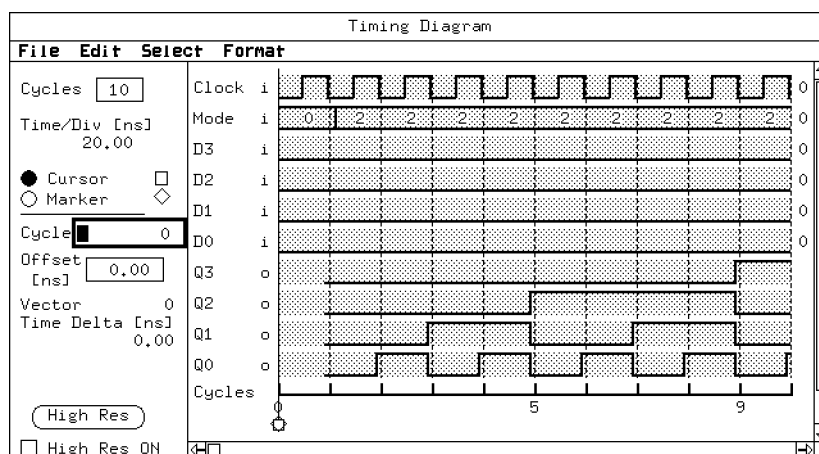

Figure 9-14. Timing Diagram
- Click **Tim.Diagram** in the **MAIN** menu. A Timing Diagram is shown in Figure 9-14. A Timing Diagram shows the received signal status per cycle at the sampling point.